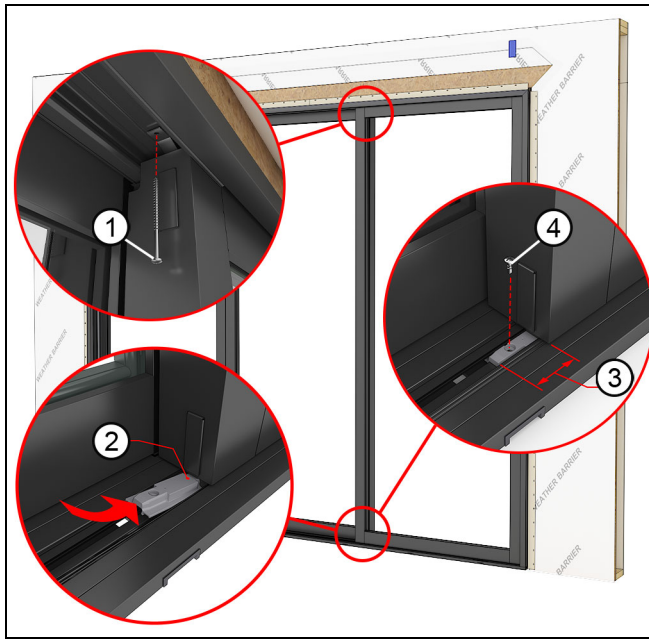

Figure 105
12. Secure the exterior (C) stationary panel with a #8 x 1/2" Phillips self-drilling screw through the bottom stationary bracket into the sill. Bend the top stationary bracket of exterior panel up against the head jamb, pre-drill a 3/16" hole through the head jamb using the bracket as a template. Fasten through the bracket into the head jamb framing with a #10 x 3" installation screw. See Figure 105.